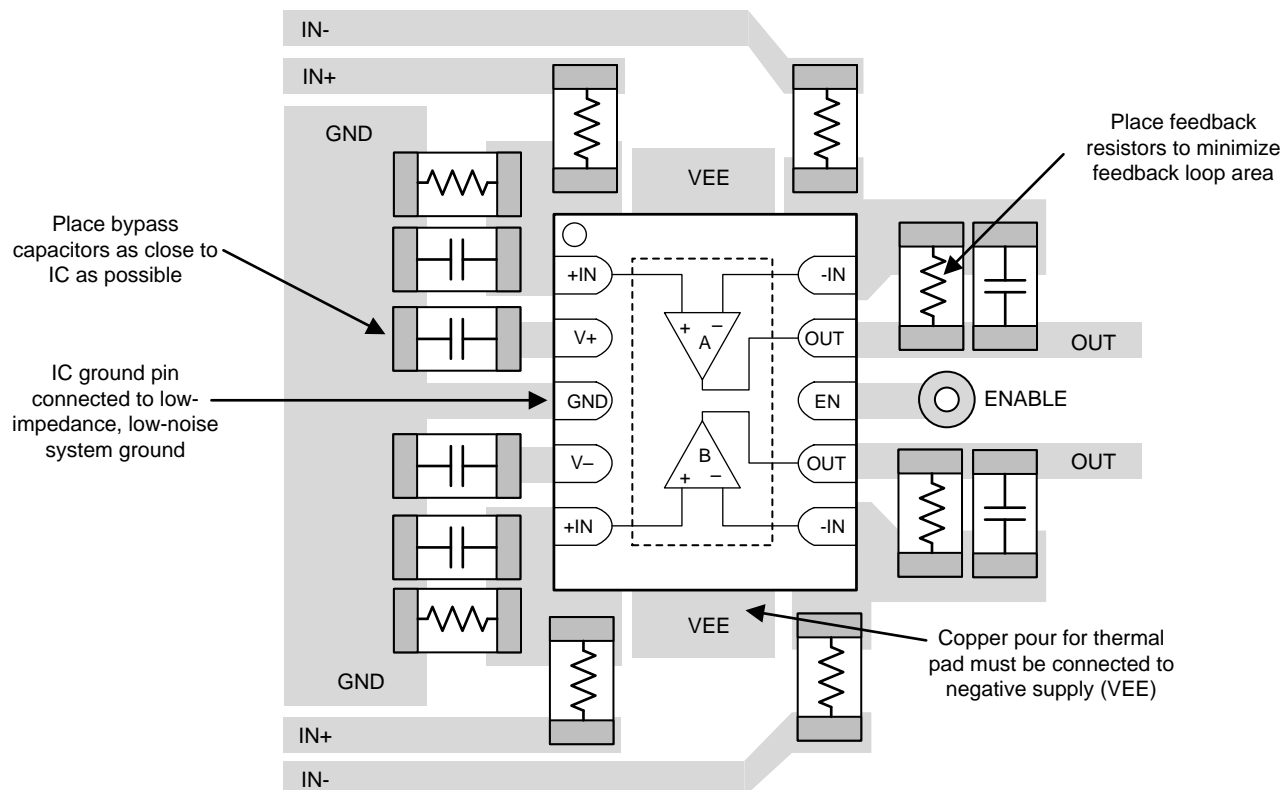

Figure 60. Operational Amplifier Board Layout for a Difference Amplifier Configuration
- Place the external components as close to the device as possible. As shown in Figure 60, keep feedback resistors close to the inverting input to minimize parasitic capacitance and the feedback loop area.